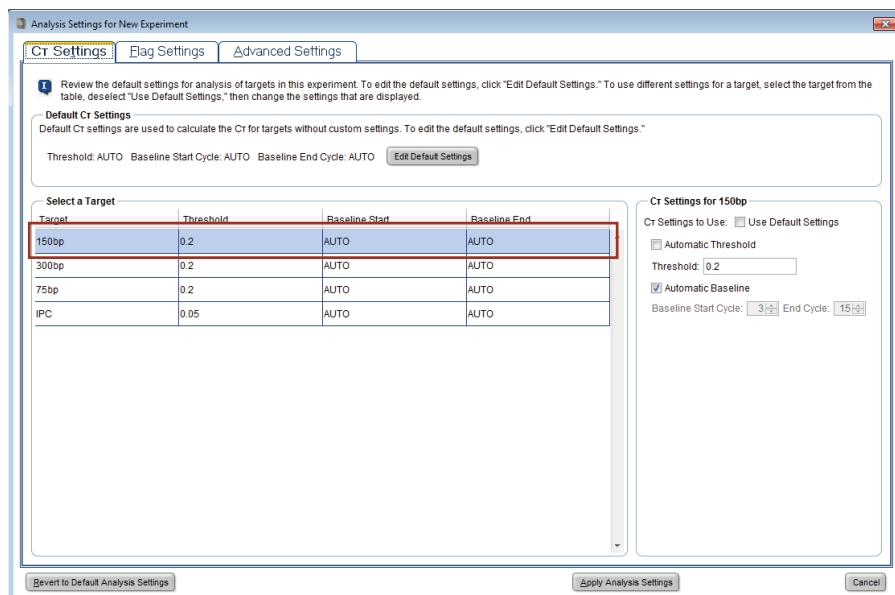

Figure 7. The Analysis Settings window.
16. On the C_T Settings tab (Figure 7) in the “Select a Target” panel, select the 150bp target.
19. Select “Apply Analysis Settings” (Figure 7). Select “Run Method” under Setup in the left panel. Modify the default run method as directed below: